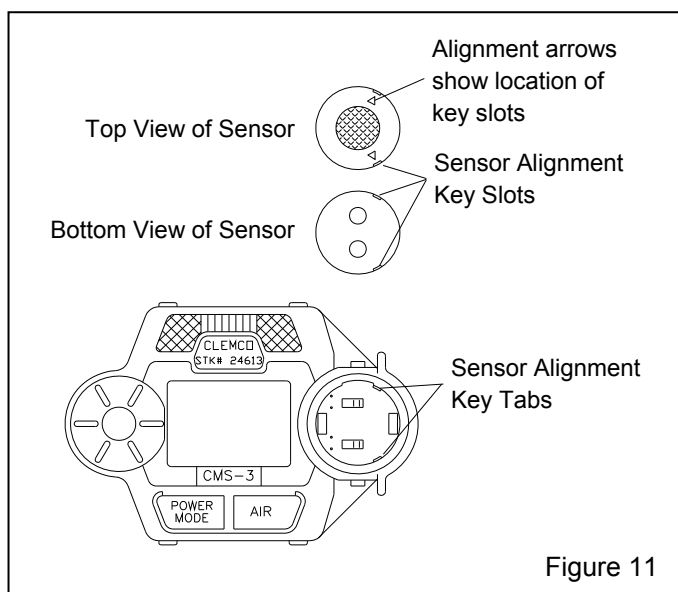

Figure 11
inserted in the socket one way. Note the orientation of the old sensor, as shown in Figure 11 before removing it.
**5.2.5** Carefully insert the replacement sensor in the socket. Make sure the sensor face with the colored ring is facing up, and that the sensor key slots are properly aligned with the key tabs in the socket as shown in Figure 11, before inserting.